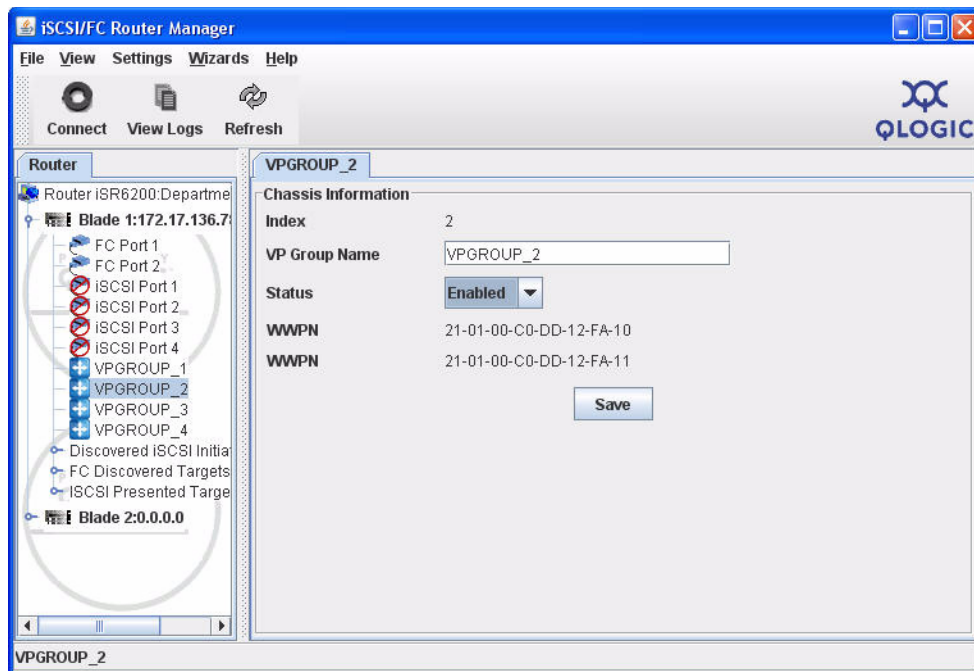

**Figure 4-2 Chassis Information for Selected VPGROUP**
2. Select **Enabled** or **Disabled** from the **Status** drop-down menu. (See Figure 4-2.)